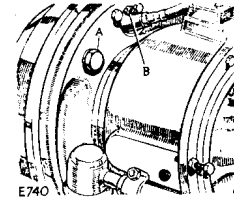

Fig. 77. Wheel brake adjustment, Rover 8, front and rear
The brake shoes pivot at a common point and are free to float at the hydraulic expander unit (wheel cylinder). Two pistons having pressure seals (cups) in the wheel cylinder are held apart by a spring which prevents misalignment of the cups and keeps the pistons in light contact with the brake shoes. A bleed screw nipple and non-return valve are provided on the wheel cylinder, access to the nipple being gained from the rear of the anchor plate (Fig. 77). Rubber covers are fitted over the bleed nipple and pistons to exclude dust and mud. A single adjuster cam is fitted to each brake anchor plate.
- (1) Jack up the vehicle.
- (2) On the back face of the brake anchor plate will be found a hexagon adjustment bolt (Fig. 77 (A)), which operates a snail adjuster bearing on the leading shoe. Only one of these is fitted to each wheel brake unit, thereby providing single-point adjustment.